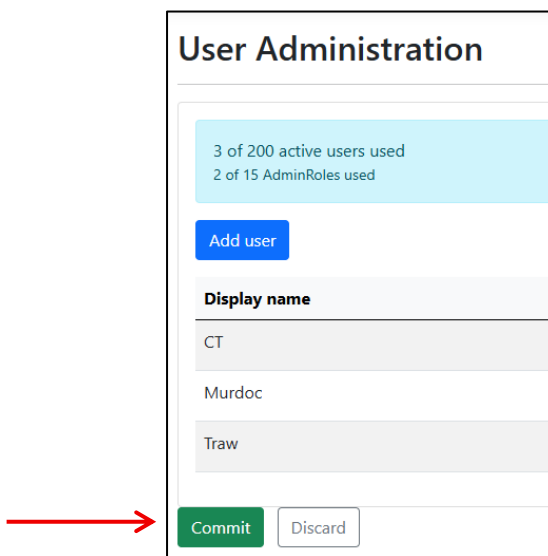

Figure 7: Commit your changes
6. Finally, you must hit the **Commit** button to finalize the changes (fig. 7). Failure to do so will result in the changes not being applied. Selecting the **Discard** button will reverse your non-committed changes.